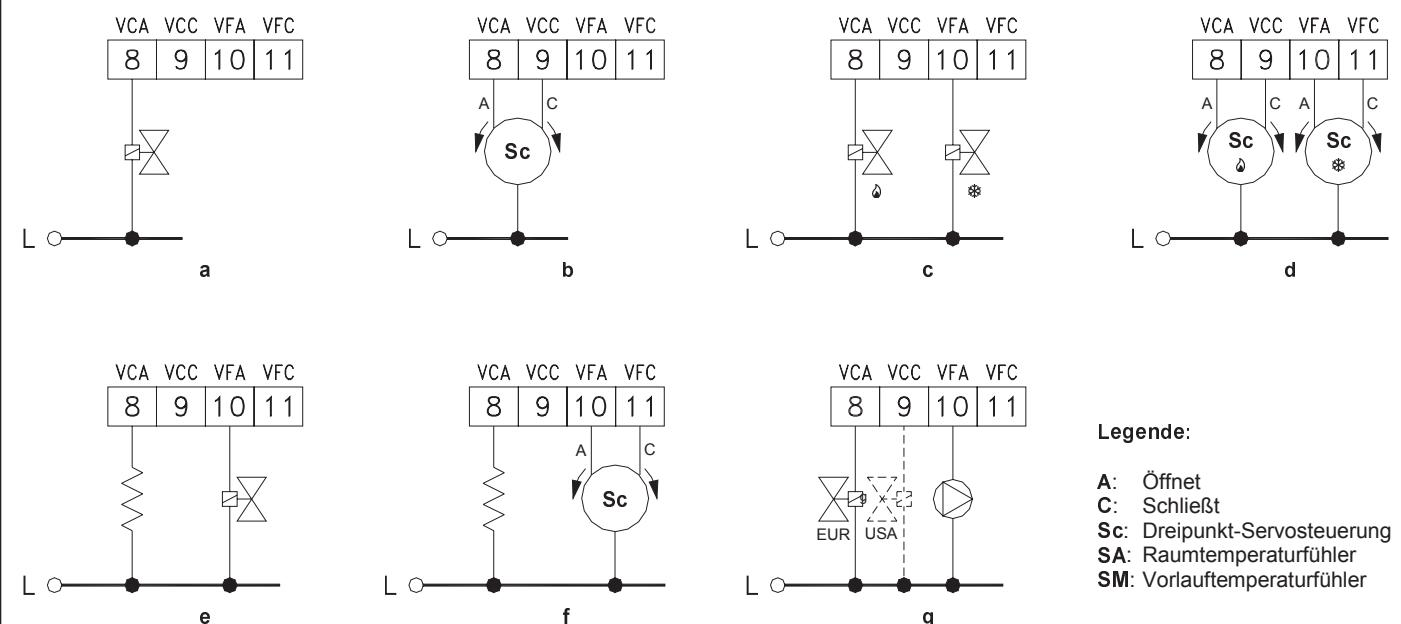

Abb. 7: Mögliche Ventilanschlussvarianten.
ON-OFF: if Normally Closed (NC) it enables the water flow when power is applied; if Normally Open (NO) water is normally flowing when the valve is unpowered and is stopped when powered. Wiring diagram in Fig. 7 a, c and e.
The relevant wiring diagram is shown in Fig. 7 b, d and f. When the regulator is configured for an operation with a floating actuator, as soon as power is first applied, and before it starts the actual regulation, it will perform a stem position re-synchronization cycle, which is obtained by closing the valve for a time which is 150% of the value stored as nominal opening time.
2 pipes system: when configured for a two-pipes system the controller drives one valve only, wired at the 'heating' valve terminals, both when heating and when cooling, as the same valve is going to control either hot or cool water flow. See wiring diagram in Fig. 7 a and b. In case of a two-pipes system without valve, and therefore with no wirings at the valve output terminals, make sure to set parameters P03 and P04 to 'fan control' in order to get an effective regulation.
4 pipes system: when configured for a four-pipes system the controller drives both valves outputs in order to activate either the hot water or the cooling one according to the actual requirements from the controlled environment. See wiring diagram in Fig. 7 c and d.